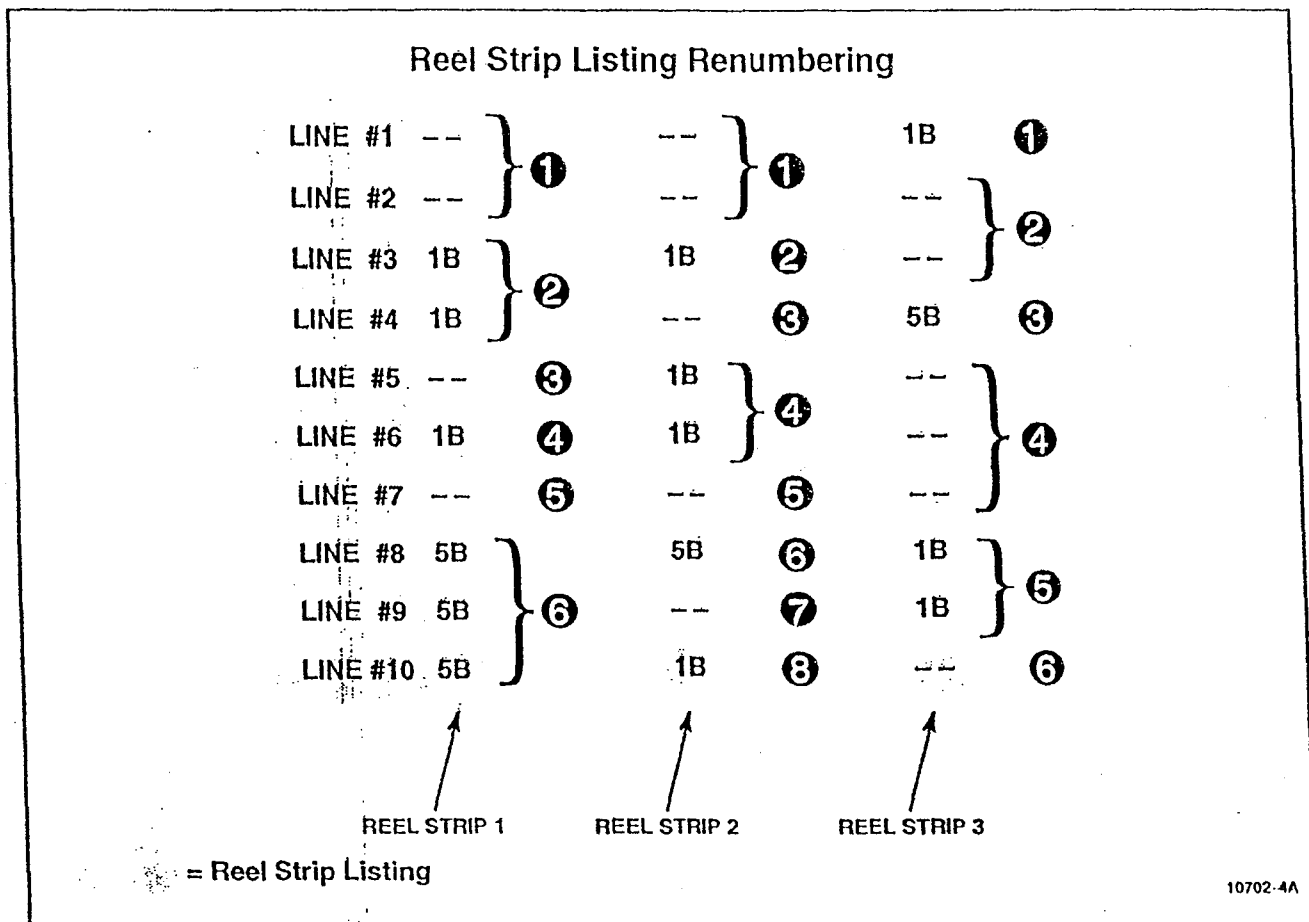

Figure 4-2. Reel Strip List Example.
Re-number the lines on the expanded reel strip listing by combining consecutive, identical symbols together to form one stop (line), as shown in the Figure 4-2 example.
Refer to Figure 4-2 and consider the beginning of first of three reel strips shown vertically: a blank on lines 1 and 2 would combine to become stop #1; a 1B (one bar) symbol on lines 3 and 4 would be combined into stop #2, a blank or ghost on line 5 would be a stop by itself (stop #3); a 1B on line 6 would be a stop by itself (stop #4);
3. Both expanded and implied reel strip programs have more than 22 lines on the Reel Strip List and therefore follow the pattern created by renumbering the reel stops/lines, shown in Figure 4-2.